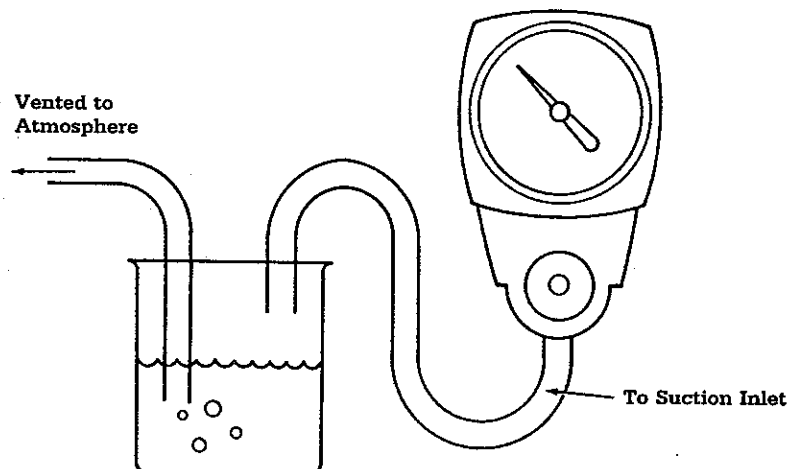

Figure 12
1. Connect the unit to a vacuum source and the suction inlet to a bubble bottle leak detector (see Figure 12). With the unit switched off, there should be no leak. A leak is indicated by continuous bubbling.